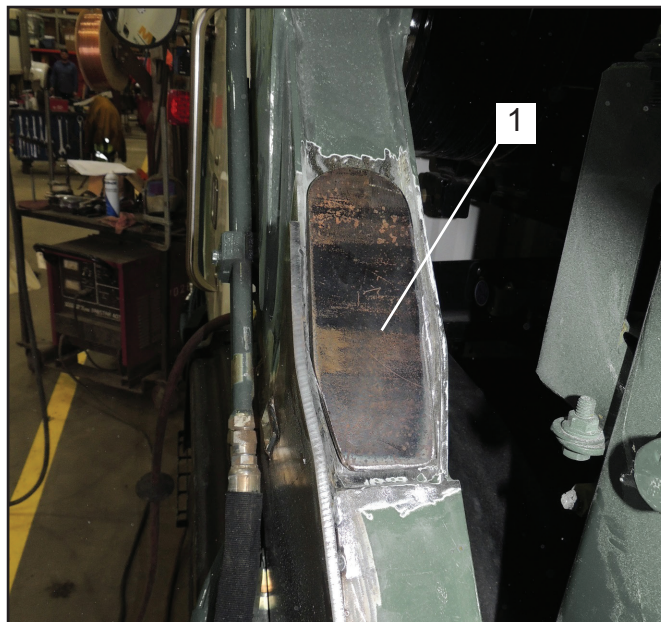

Figure 12
22. Place one of the Arm Base Reinforcement Kit top plates into the arm channel with the rounded edge oriented as shown in Figure 12, Item 1. The view (Figure 12, Item 1) is looking forward and down into the street side arm channel.